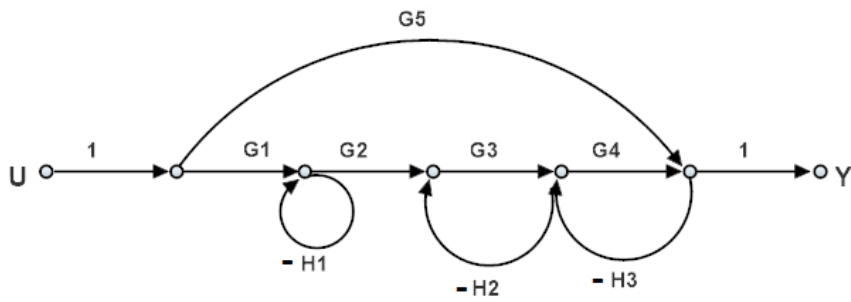

Fig. Q 1A
1A. Compute the transfer function for the system representation shown in **Fig. Q 1A** using Mason Gain Formula. (03)